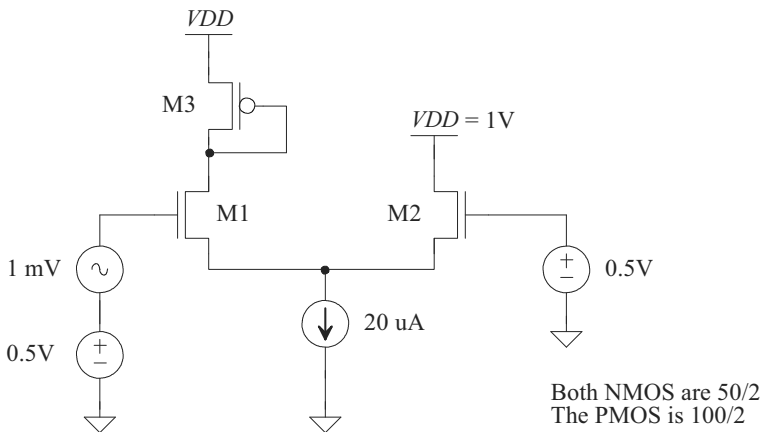

Figure 9.47 Circuit used in Problem 9.26.
- 9.26** Using the short-channel parameters in Table 9.2, calculate the drain voltage of M1 and its drain current (both AC and DC components) for the circuit seen in Fig. 9.47.